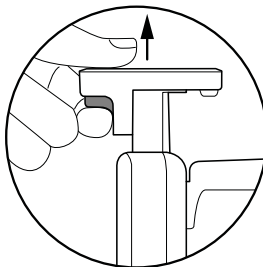

Figure 7
8. Press the Arm Release button to lift the Arm Lock Up on the NutriSeal™ Vacuum Arm (figure 7).